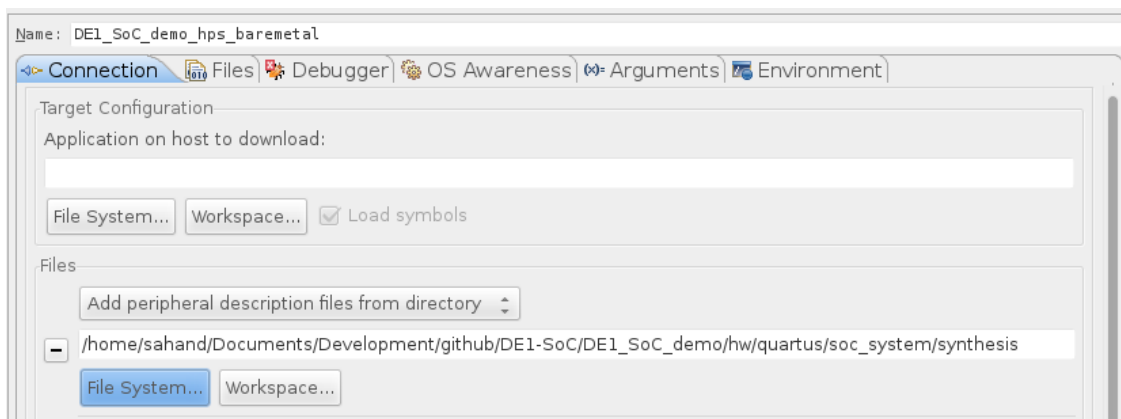

Figure 8-31. Debug Configuration "Files" Tab
- b. In 8.3.3.2, we configured our HPS to use some FPGA peripherals. We can instruct the debugger about this so it can show more detailed information when debugging. To do this, set the combobox to “Add peripheral description files from directory” and set it to the “DE1_SoC_demo/hw/quartus/soc_system/synthesis” directory, as shown in Figure 8-31. This directory contains a file called “soc_system_hps_0_hps.svd” which has information on all of the HPS' peripherals which are in the FPGA fabric.